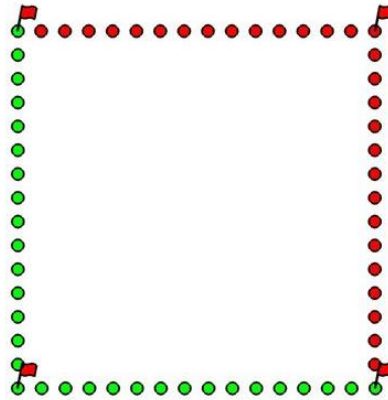

Figure 7-8: Marking ending positions
Step 4 – Mark the End Positions – if you are doing a forward only grid, it is recommended to mark the end positions (Figure 7-8). You will need to aim for something to make sure your line is straight. The end positions don't have to be the exact length of the line (as the GPR will stop when the set distance is reached), but just something to aim for.